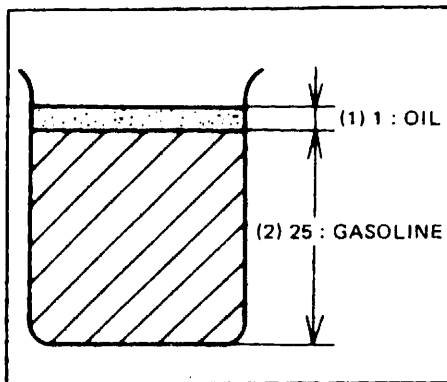

Fig. 5
1. Use TANAKA two-cycle engine oil, or a quality two-cycle oil that is made to mix at one specific ratio between 25:1 and 50:1 (gasoline: oil). It is very important to follow the oil manufacturer's recommended mixing ratio, as some oils have been designed to mix at one ratio. If your oil does not indicate recommended mixing ratio, mix at 25:1 (gasoline: oil). The fuel should be premixed prior to pouring into the fuel tank. (Fig.5)